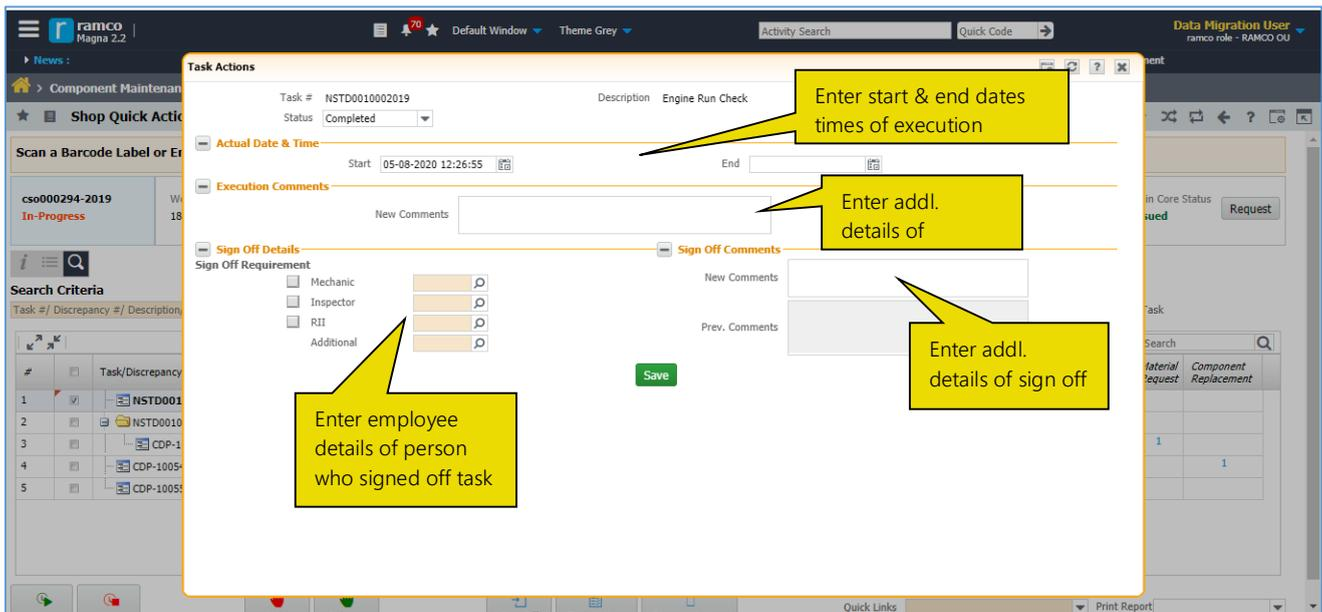

Figure 2.6 Performing actions on task
1. Select the task from the tree grid in the **Shop Quick Action Hub** page. Click the **Task Action** button. The **Task Actions** window appears. *See Figure 2.6.*